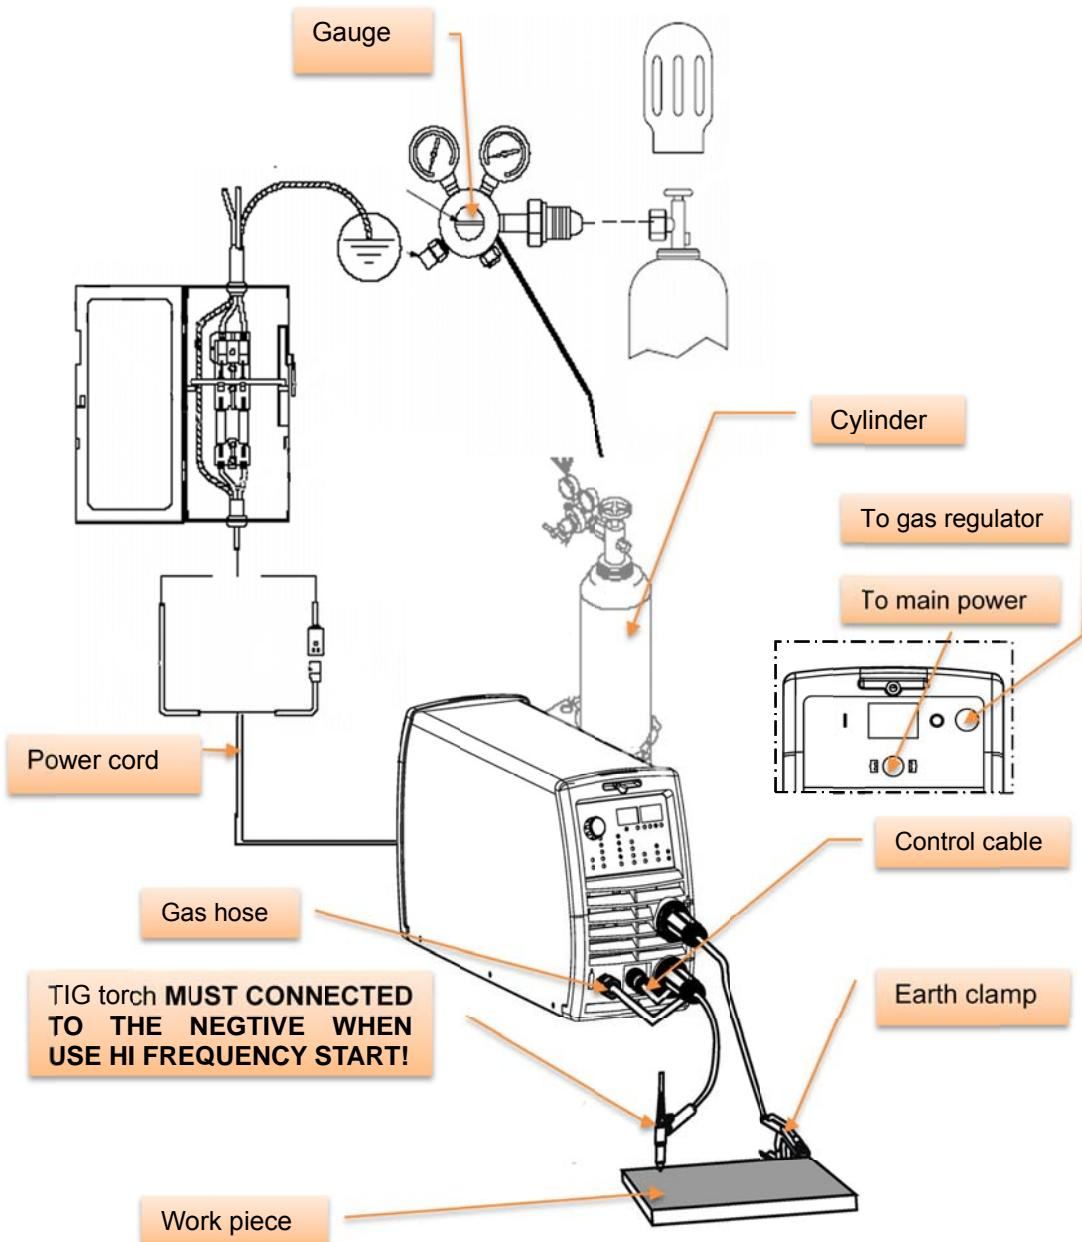

Figure 3.1
- 3-5.4.Connect the gas line/hose to the proper shielding gas source. Refer to Figure 3.1.